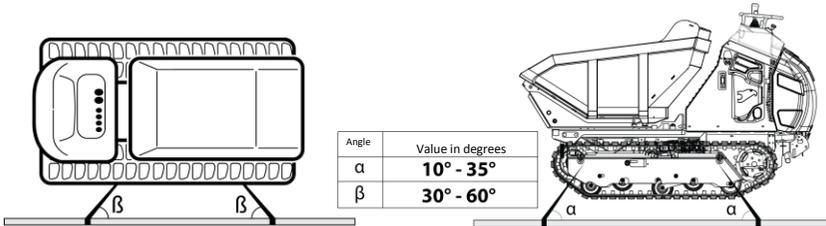

fig. 26 – Anchoring points for stowage
- When stowing the vehicle, respect the angles indicated in the table (fig.26) provided by the manufacturer.
Secure the vehicle to the floor of the means of transport by using the **Cormidi approved chain** (Cod. C0260.00.3) which can be purchased from authorized Cormidi dealers, connecting it to the points shown in figure 26.